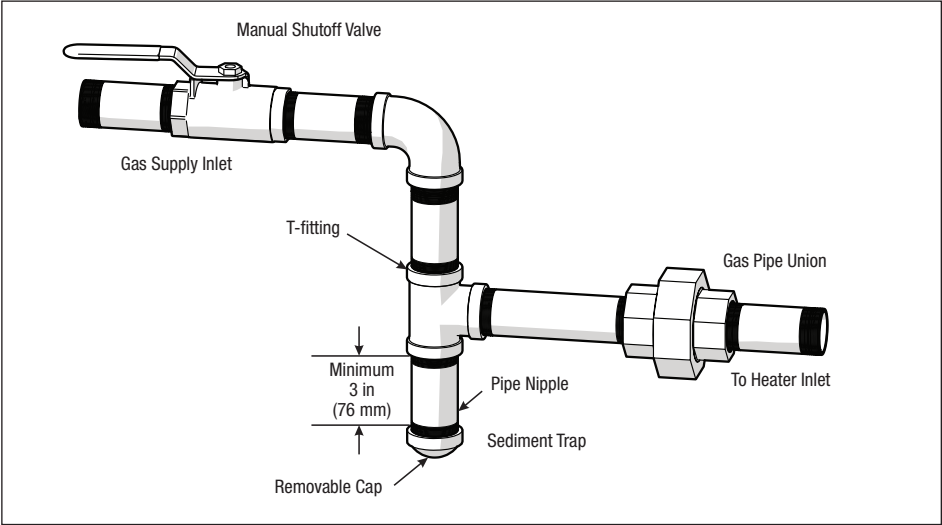

Figure 8. Manual Shut-off Valve and Sediment Trap
- Install a sediment trap and union ahead of the gas controls and outside the heater body. See Figure 8.
Do not use flexible appliance connectors on any gas connections unless the connector is CSA approved for outdoor installation, and is marked with the BTUH capacity (which must be equal to or greater than the heater rated input) and the type of gas (Natural or LP). Also, any flexible connectors, such as CSST buried underground must be certified for underground installation and meet all applicable codes. Please note, use of flexible connector still requires the installation of a sediment trap per NFPA 54. See *Figure 8*.